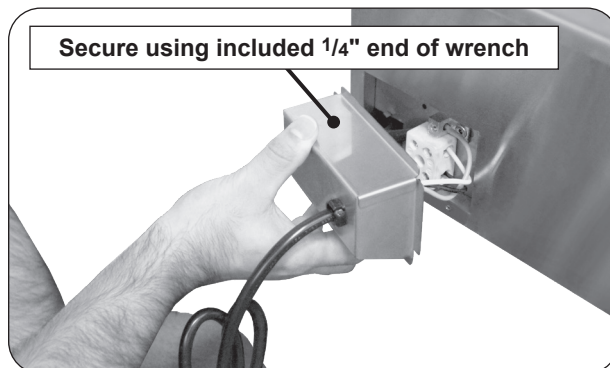

Fig. 2-4 Install new junction box
3. Ensure all wire connections are fully secure, then secure the junction box to the grill using the included 1/4" wrench (see Fig 2-4).